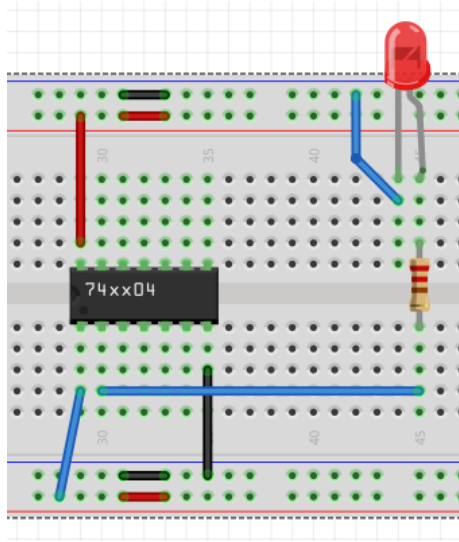

Figure 11
12. Connect the input **A** of the first NOT gate (**pin 1**) to **5V bus** (logic 1) as shown by the diagonal blue wire in Figure 11.